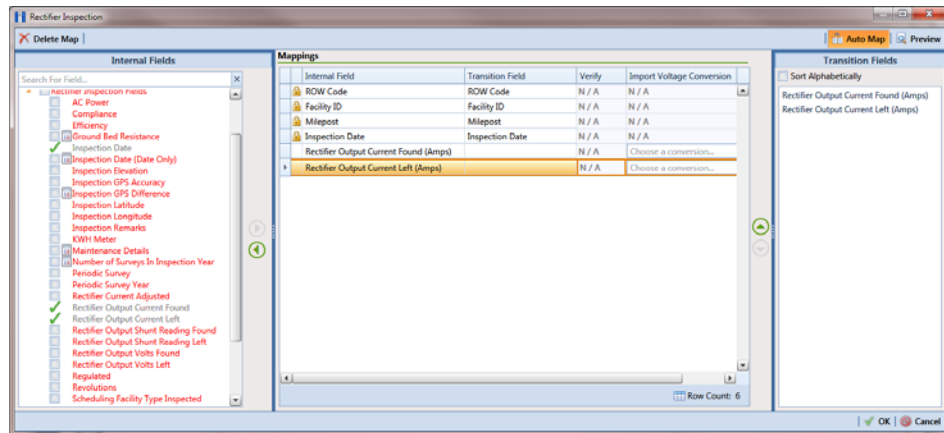

Figure 10-9. Field Mappings
- a** Click  **Edit** in the *Maps* group box to open a field mapping window (Figure 10-9, page 462).
NOTE: Fields in the *Mappings* panel with a lock icon  are required fields for mapping, such as *ROW Code*, *Milepost*, *Facility ID*, and *Inspection Date* shown in the following example (Figure 10-9, page 462).
- b** Choose PCS Axis fields for mapping. Click the  toggle arrow for a field category in the *Internal Fields* panel to view a list of available fields. For example, *Rectifier Inspection Fields* is selected in the following figure (Figure 10-9, page 462).